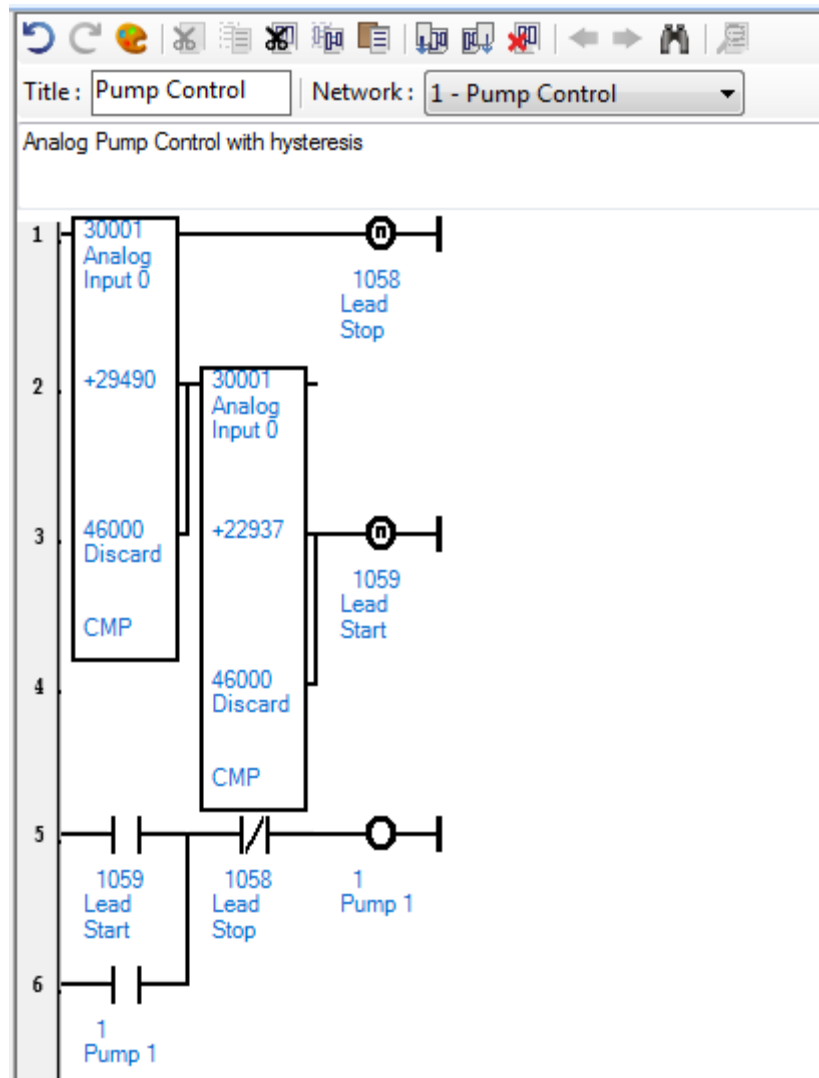

Figure 35: Complete Hysteresis
- To overcome these limitations and to control the pump start and stop the program needs to be modified to that as shown in **Figure 35**.